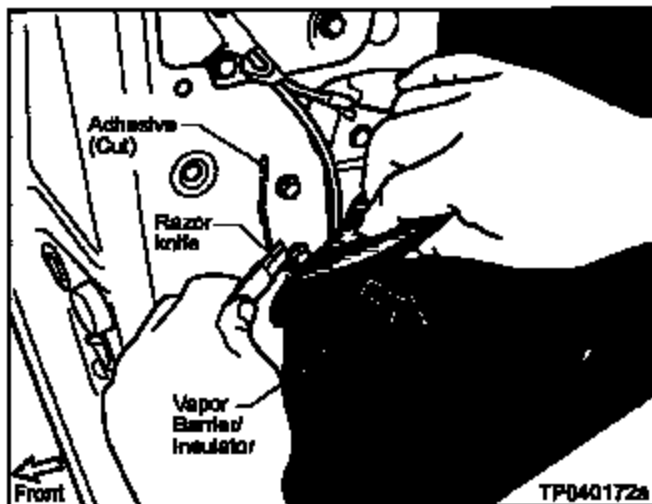

Figure J17
a. Starting at the front vertical end of the Sliding Door, use a razor knife to carefully cut the adhesive that holds the Vapor Barrier/Insulator to the door (see Figure J17).